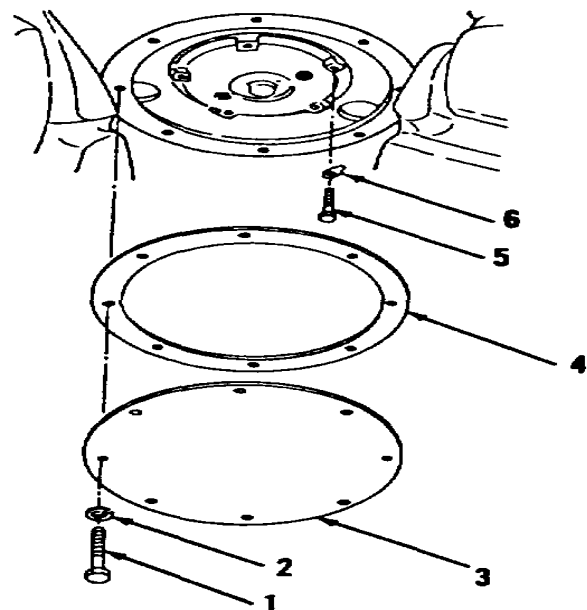

Figure 5-117.
4. Lubricate outer diameter of new preformed packing (8) with clean oil.
5. Position retainer (7) on shaft (10).
6. Install five locks (6) and bolts (5, Figure 5-117).
7. Bend tabs over five bolts (5) and locks (6).
8. Install new gasket (4) and cover (3).
9. Install eight lockwashers (2) and bolts (1).